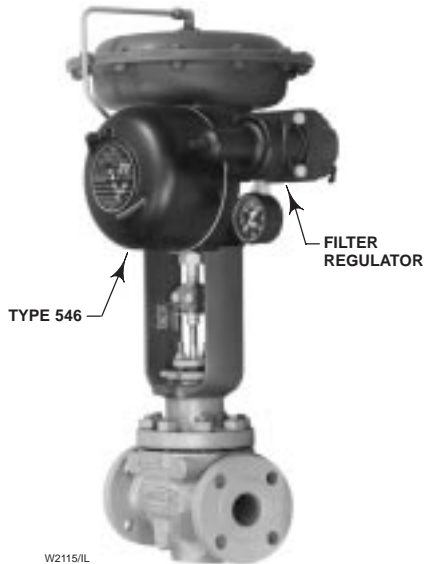
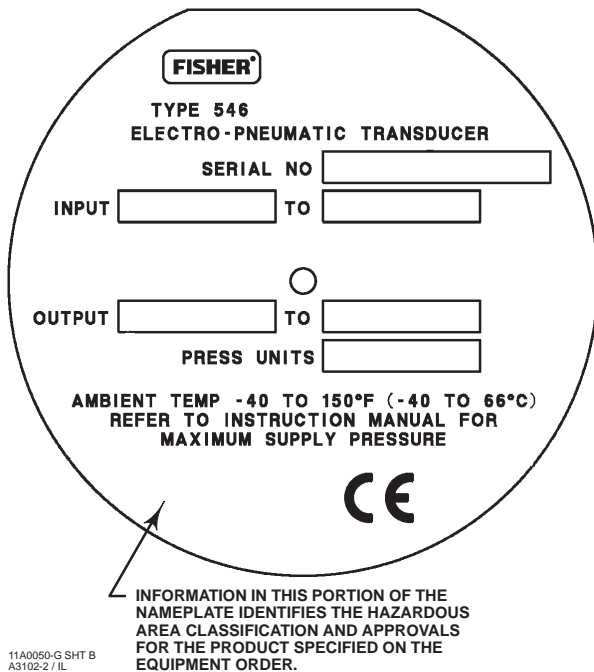

Figure 1. Type 546 Mounted on a Type 657 Pneumatic Diaphragm Actuator
Figure 2. Typical Nameplate
| Recalibration | 7 | The Type 546 or 546NS transducer (figure 1) receives either a voltage (Vdc) or a current (mAdc) input signal and transmits a proportional pneumatic output pres- sure to a final control element. The Type 546S trans- ducer receives a current (mAdc) input signal and transmits a proportional pneumatic output pressure. A typical application is in electronic control loops where the final control element, generally a control valve, is pneumatically operated. The input signal, output pres- sure range, and electrical classification, if approved, of each transducer is indicated on the nameplate at- tached to the cover (figure 2). | |
Refer to the Hazardous Area Classification bulletins and the transducer nameplate (see figure 2)
2. Run 3/8-inch (9.5 mm) outside diameter tubing from the 1/4-inch NPT OUTPUT connection on the transducer case to the input connection on the pneumatic actuator or valve positioner. This connection is made at the factory if the unit is shipped mounted on an actuator as shown in figure 1.